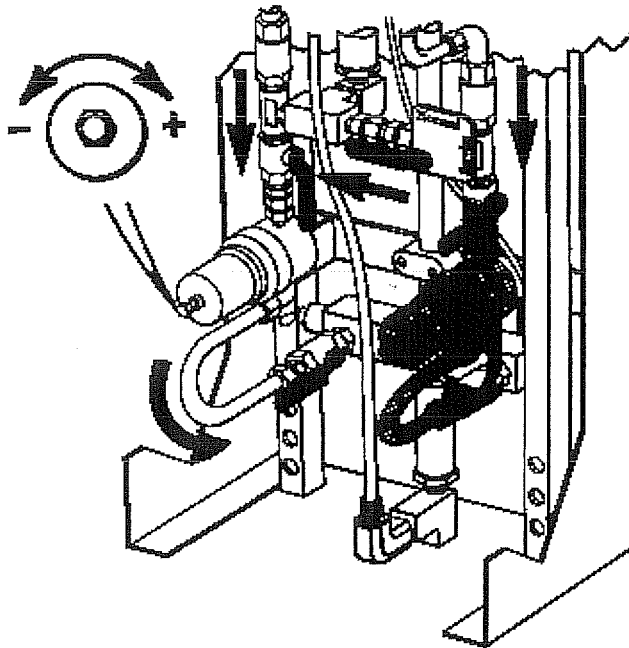

Figure 4-3
2. Close the upstream and downstream valves to isolate the regulator that is not being adjusted. (Figure 4-3)